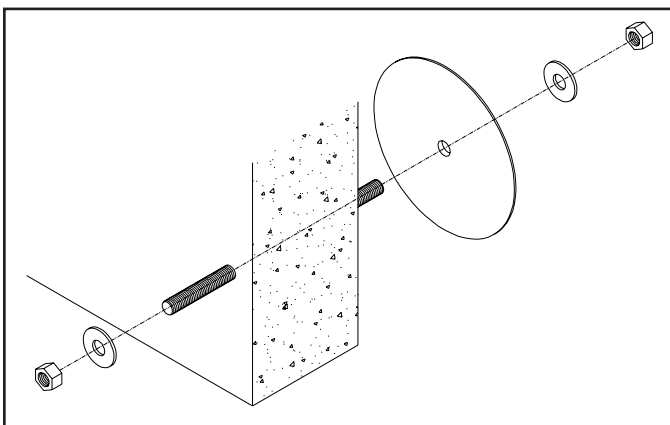

Figure 2-7
- If the hole goes completely through the wall, use thru-bolts and backing plates to secure the track to the wall. See Figure 2-7. Sleeves may be required if wall collapses when tightening thru-bolt.
15. If backer plates (Figure 2-7) are being used, they must be clean and either be painted, or a nonferrous material.